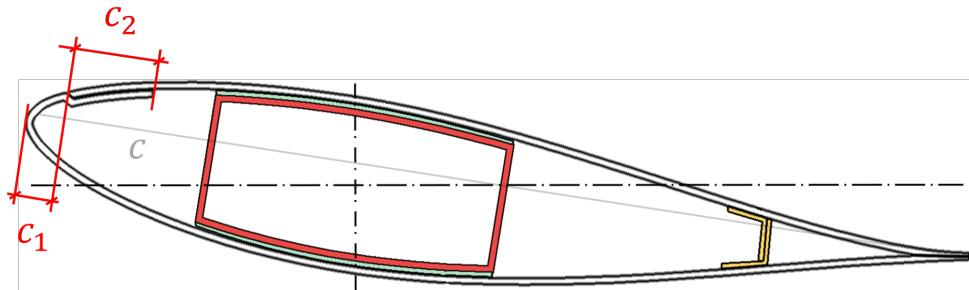

Figure 16: Skin overlap diagram
The location of this overlap is determined by its distance from the leading edge (LE) along the chord length. The diagram in Figure 16 shows the location of this overlap in relationship with the chord length of a station, where c is the chord length at the given station, c_1 is the distance from the leading edge to the start of the skin overlap, and c_2 is the length of the overlap along the chord length axis.